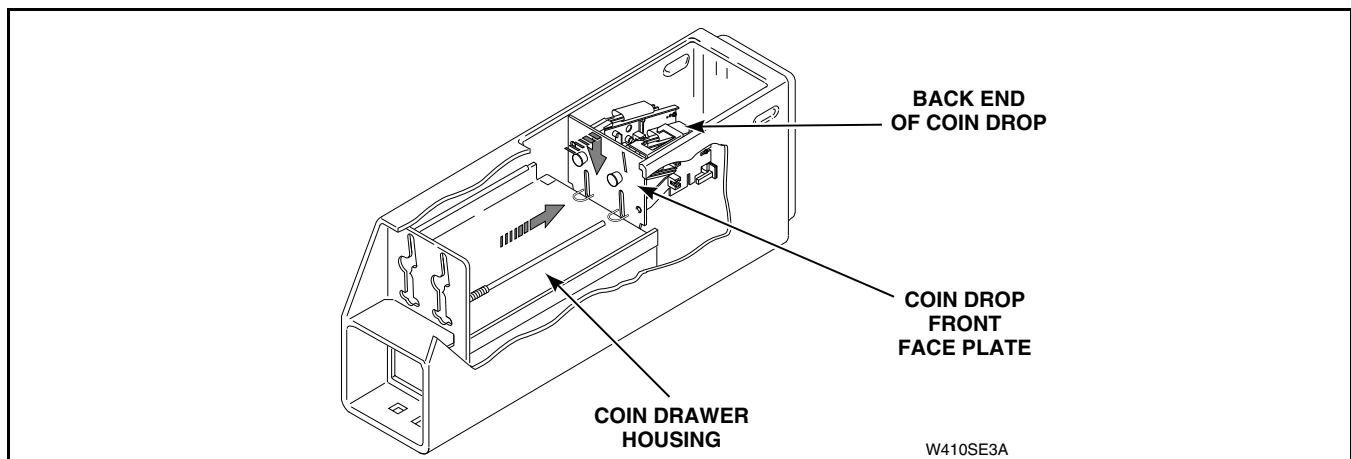

Figure 17
(8) Lift back end of coin drop and pull straight back until bottom edge of the drop's front face plate falls behind the coin drawer housing. Refer to *Figure 17*.